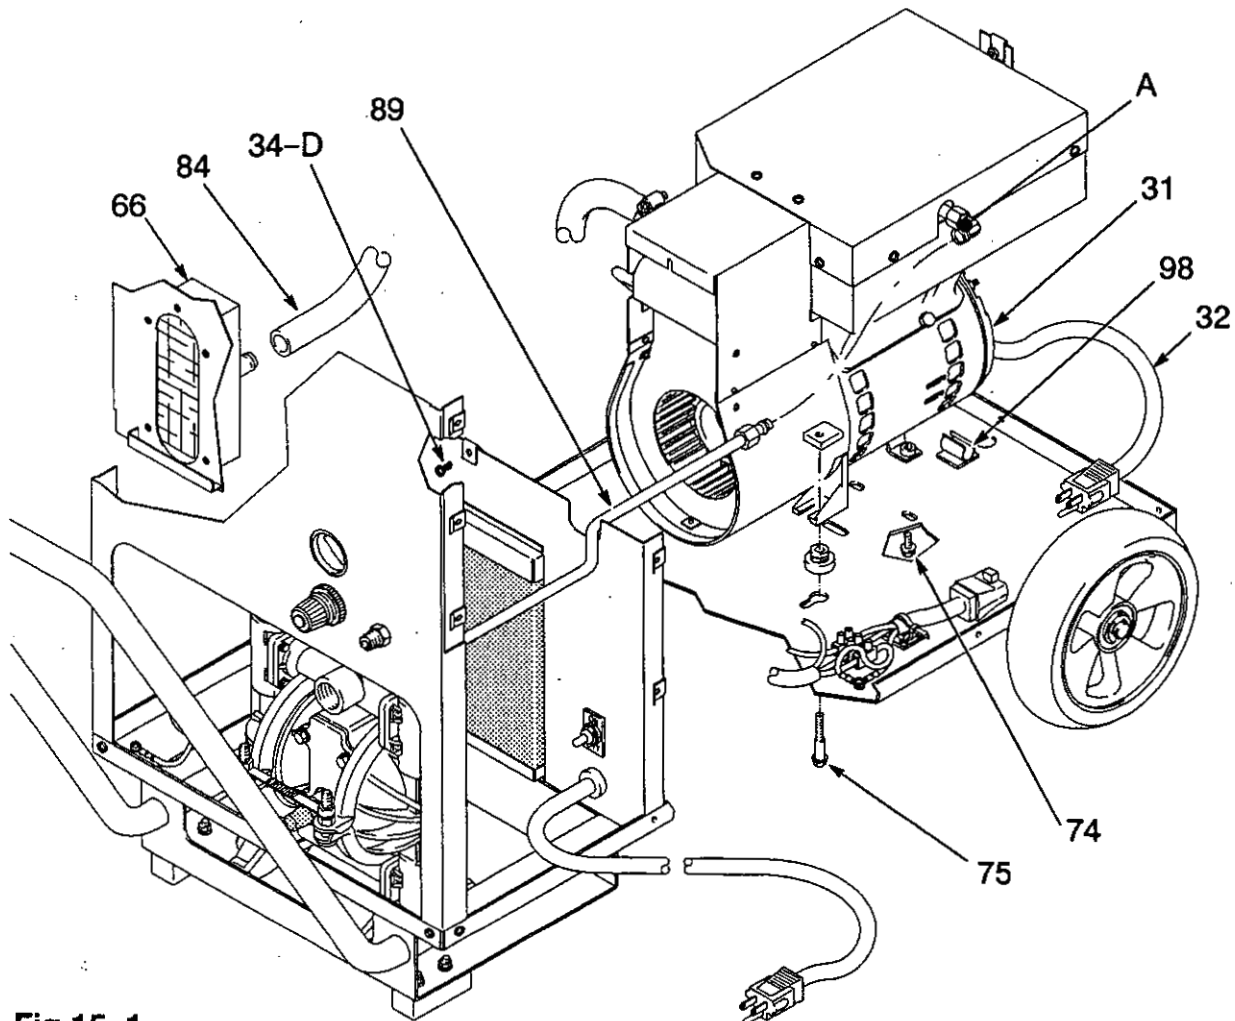

Fig 15-1
4. Lift out the hopper (17).
5. Remove the screws (34-B) holding the rear panel (26). Remove the rear panel.
- NOTE:** Fig 15-1 is shown with the side panels removed for visual purposes only. Refer to it for Steps 6 to 11.
6. Remove the two motor mounting screws (75) and remove the two screws (74).
7. Unplug the motor power cord (32) and remove the cord from the clip (98).
9. Disconnect the copper tube (89) at the cooler (A), using two wrenches.
10. Disconnect the air intake hose (84) at the air intake filter (66).
11. Grasp the motor (31) – not the duct work – and lift out the cooler/compressor assembly.
2. Push a pad (73) over the rear foot (A) of the motor (31). Push the bracket (109) onto the rear foot (A). See Detail B, below.
3. Put the motor on the cart (B), aligning the holes and slots. Be sure the lip (D) of the front duct work is mounted over the cart's filter panel (70). See Detail A, below. See Fig 15-1 also.
4. Push the screw (75) through the foot pad (77). Place the square nut (72) on top of the screw and hold it in place while engaging only two or three threads. Slide the motor forward.
5. Thread the rear motor mounting screws (74) into the bracket (109) and tighten them.
6. Tighten the screws (75) while holding down the nuts (72).